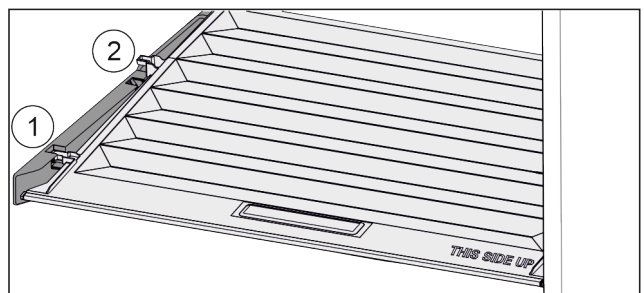

Fig. 93
- ▶ Pull the lid up at the front to the opening in the retaining parts Fig. 93 (1).
- ▶ Lift from the back and pull it up and out Fig. 93 (2).